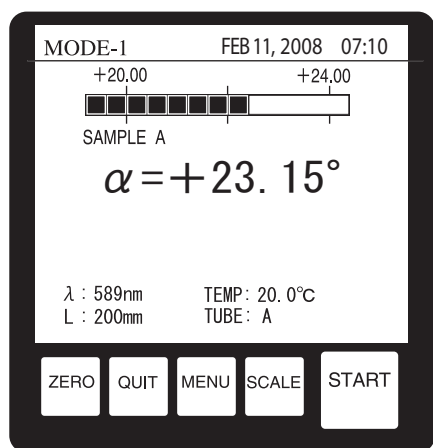

Fig.17-6
- b) Using ↓ or ↑, move the arrow (→) on the screen so that it points to the desired sample number, and then Press the ← key. The screen shown in Fig.17-6 will appear on the display panel after a beep.
From this point on, the screen shown in Fig.17-6 will be displayed every time a measurement is performed.
Following the instruction specified on P.36 and P.37, measure the sample when the screen shown in Fig.17-6 is being displayed on the display panel.
Following the measurement, the measurement value will be displayed as shown in Fig.17-6.